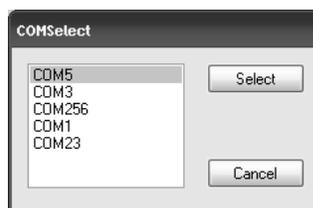

Figure 2 COM Port Selection Window
- Select the associated COM port from the **COMSelect** window (Figure 2). Click **SELECT**. Observe that the connect status in the lower left corner of the **E1150 FCSW** window reads *Connected*.